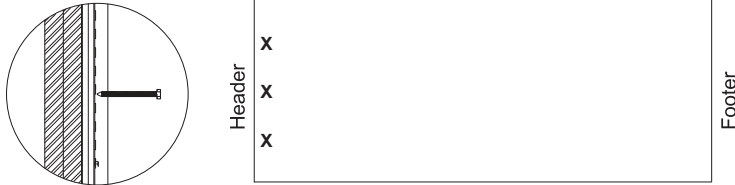

Figure 15: Securing the header end of the attic ladder
R. With the door now in alignment with the aluminum frame, open the door and make sure the power arms are fully extended to avoid unexpected door closure. Installer #2: Drill 1/8" diameter by 3" deep pilot holes into the ceiling joist through the three pre-drilled holes in the header and install the 3" lag screws in each location. See Figure 15.